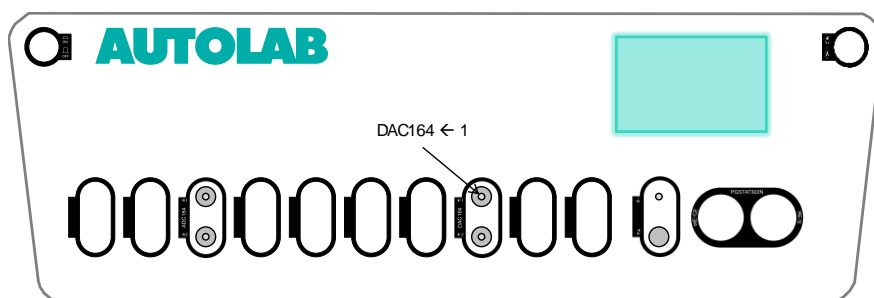

Figure 14 – The DAC164 ← 1 output is used to control the Autolab Motor Controller
- DAC164 ← 1 output located on the front panel of the 8 and 7 Series Autolab PGSTAT (see Figure 14).